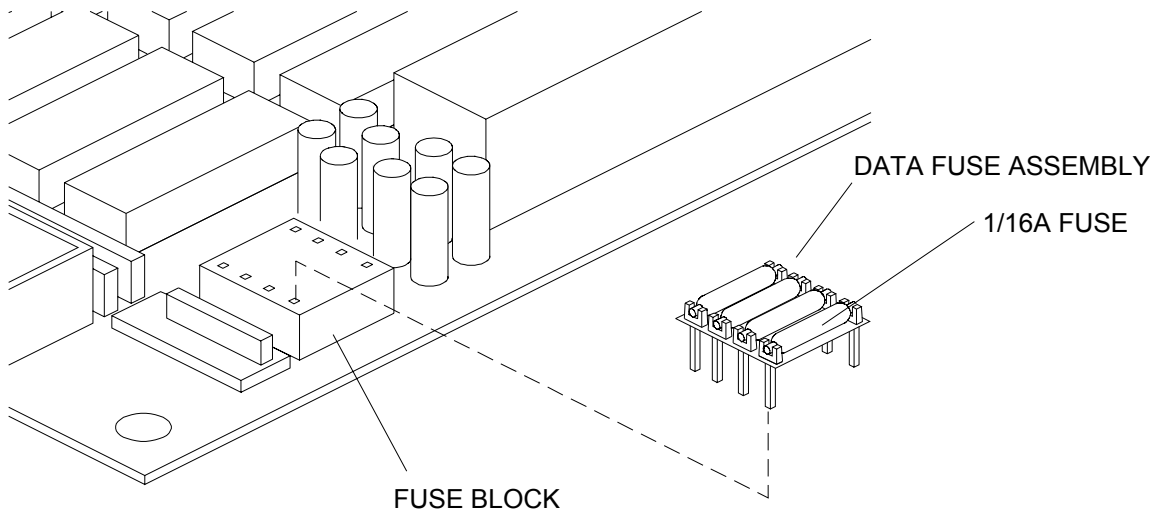

Figure 6.20 Upgrade CPU PCB 1/16A Fuse
- 2.At lamp control PCB, carefully pull up and out the Data Fuse Assembly from fuse Block (Figure 6.20).